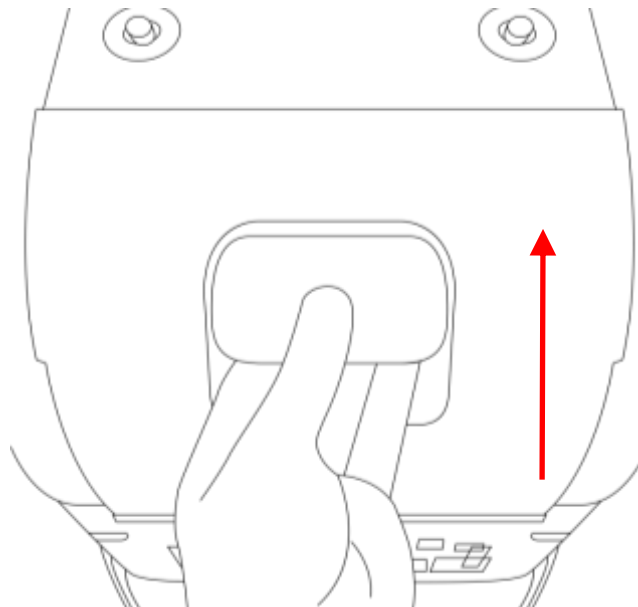

Figure 130
1) Open the back cover by pressing upward and inward in the direction of the arrow in Figure 130.